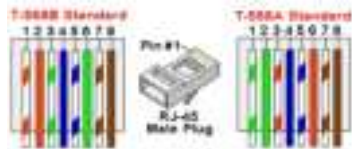

Figure 3: Standard cable wiring
- c. Insert the eight wires into an RJ45 connector (see *Figure 3*).
7. For the switch/router side, use a pre-crimped cable or use a crimper to prepare an RJ45 communication connector: Insert the eight wires into the RJ45 connector in the same order as above (see *Figure 3*).